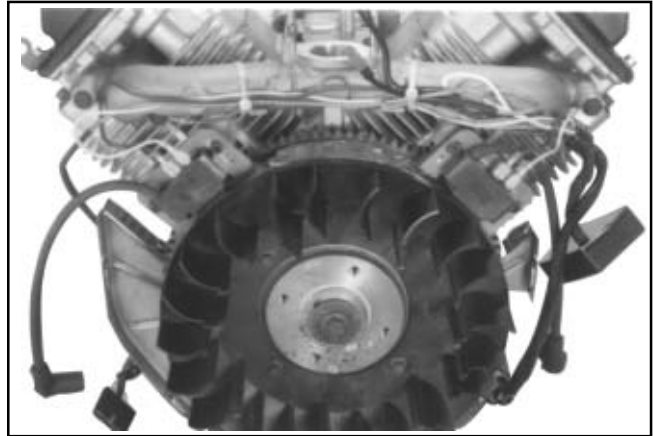

Figure 9-33. Position of Ignition Modules.
2. Rotate the flywheel so the magnet is away from the modules. See Figure 9-33.